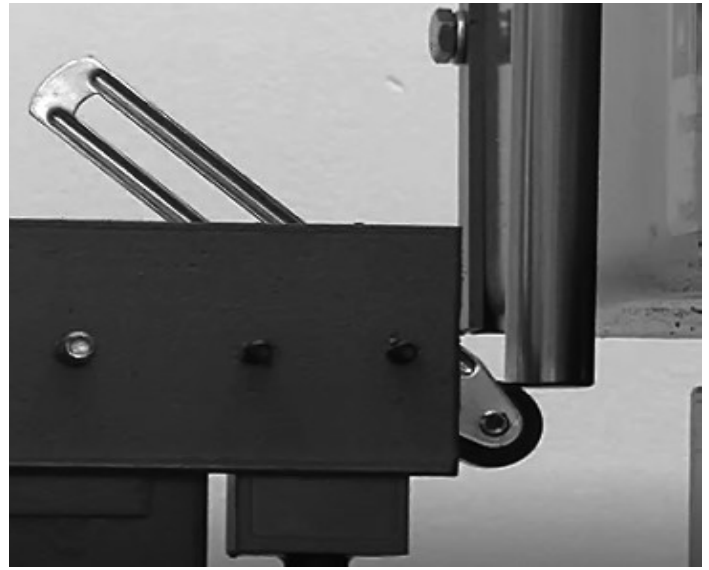

Figure 7. Vertical limit switch in the closed position
- 4) Lower the limit switch rod to a position that will close the limit switch (4-5 o'clock) (Figure 7). At this point, the mixer approaches its highest point of mixing while running. The mixer will shut off as it exceeds the desired highest point.